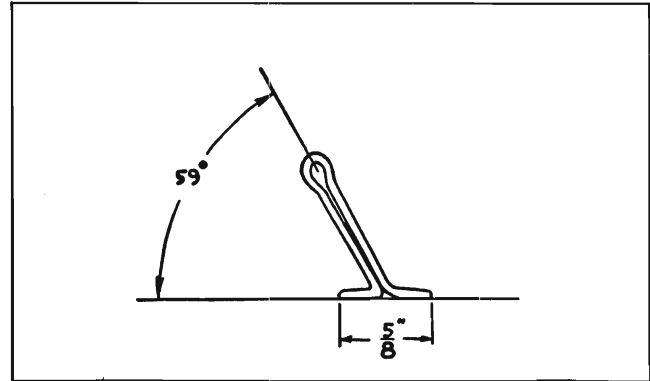

Fig. 6-63 Tool for Removing Upper Half of Main Bearing
4. Make a tool for removing upper half of bearing shell as shown in Fig. 6-63. KMO 734 can also be used.